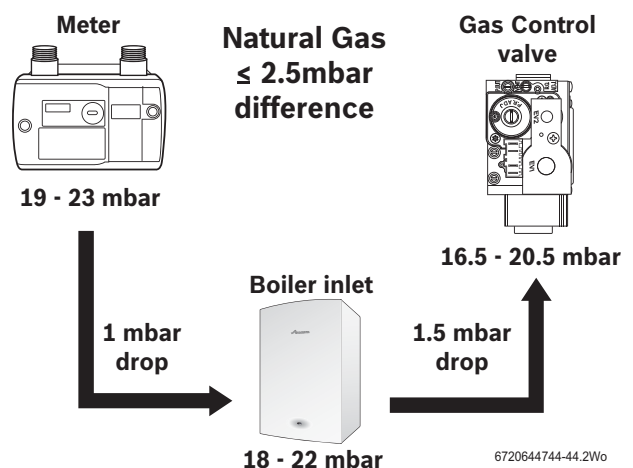
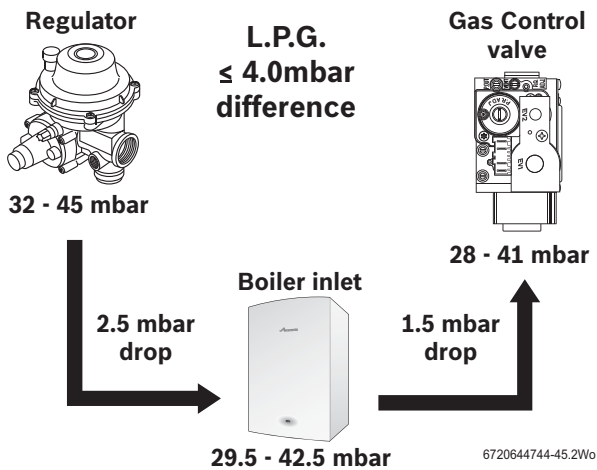

Fig. 63 Natural gas pressures
Fig. 64 L.P.G. pressures
- ▶ Check the gas supply working pressure at the gas valve conforms to values shown in Fig. 63 or Fig. 64 .